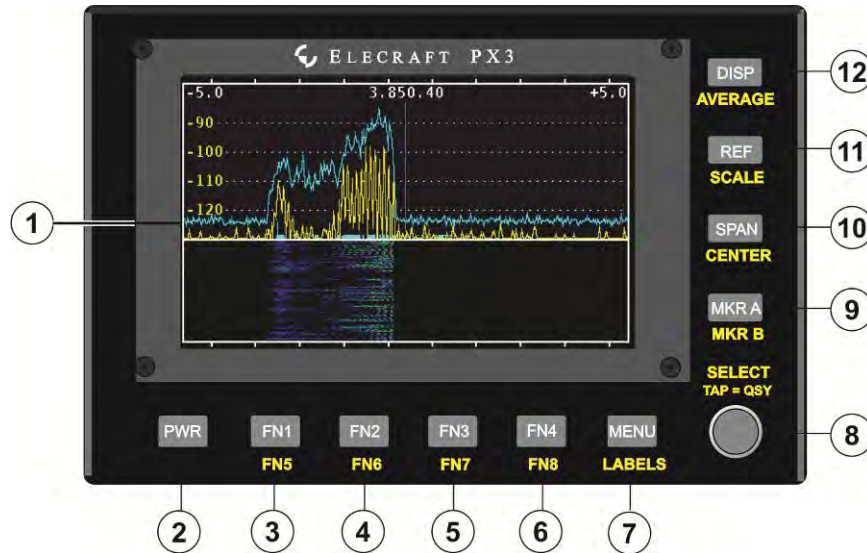

Figure 1. PX3 Front Panel.
<p>The Basics</p>	<p>⚠ TAP AND HOLD: Most PX3 switches have two functions, similar to the KX3. Tap (press briefly) to activate the function labeled on the switch. Hold (press for 1/2 second) activates the function labeled below the switch. In the text, tap functions are shown like this: DISP while a hold function is shown like this: AVERAGE. Additional typographical conventions are shown on the previous page.</p> <p>The controls and indicators shown in Figure 1 are identified by the circled numbers in the following text (e.g. ① refers to the display screen).</p> <ul style="list-style-type: none"> <li>• Apply power to the PX3 and tap PWR ② to turn it on.</li> <li>• Tap DISP ⑫ to cycle between spectrum and waterfall display modes (Page 15).</li> <li>• Activating many functions enables the SELECT knob ⑧ so you can adjust the parameter associated with the function. The current parameter value is shown on the screen ①. You can exit and save the parameter by tapping the same key a second time, even for hold functions.</li> <li>• For hold functions, you can also hold the key a second time to exit parameter-entry mode. Holding the four keys along the right edge of the front panel ⑨,⑩,⑪,⑫, a second time de-activates the function itself. For example, holding CENTER ⑩ a second time returns the display center frequency to the transceiver frequency and holding MKR B ⑨ a second time turns off marker B.</li> </ul>